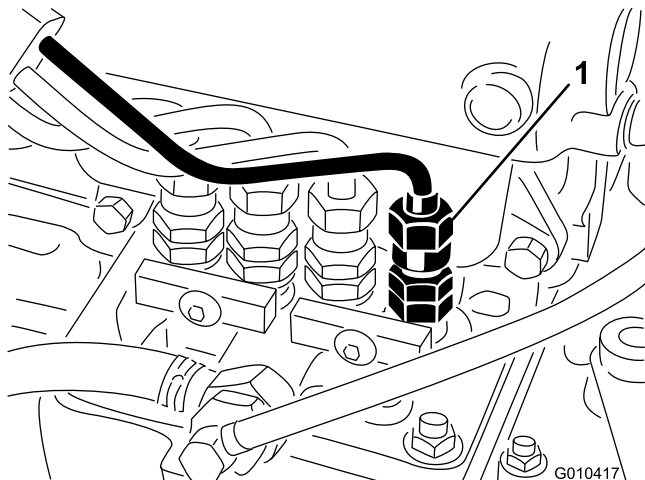

Figure 56
1. Loosen the pipe connection to the No. 1 injector nozzle and holder assembly at the injection pump (Figure 56).